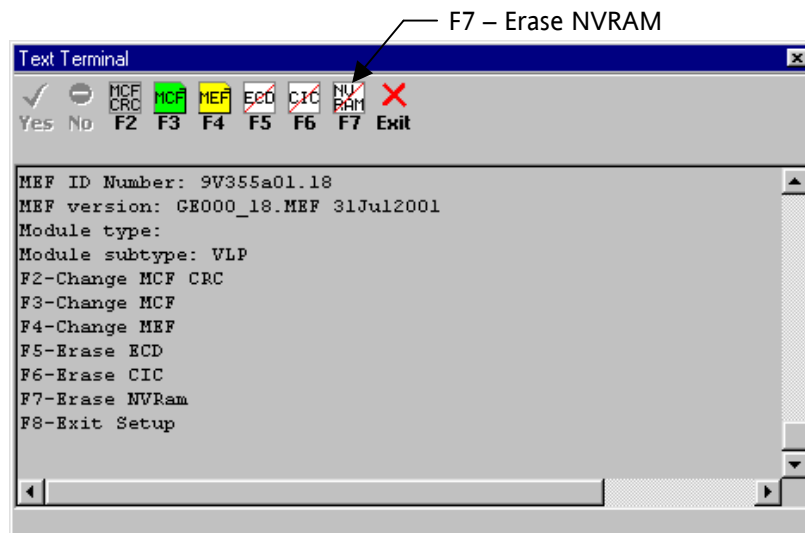

Figure 3-37
3. A boot screen similar to figure 3-37 appears. From the Function Key options, select **F7** (Erase NVRAM).